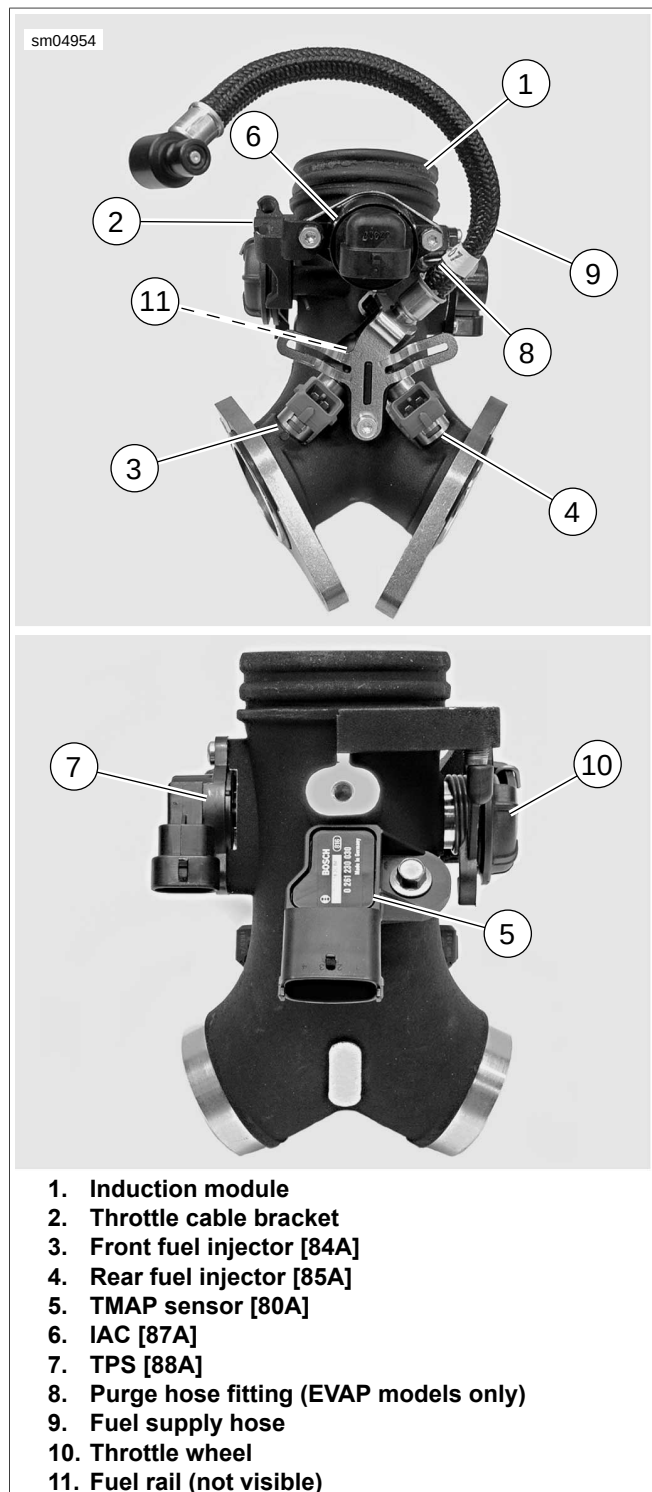
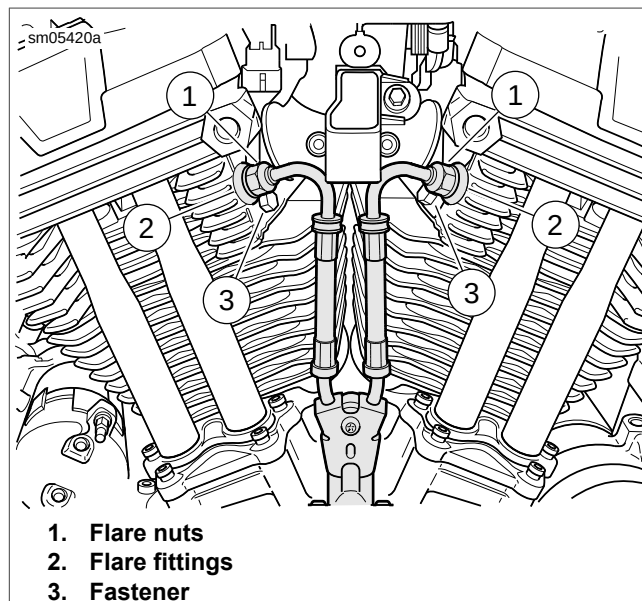

Figure 4-44. Induction Module
Figure 4-45. Remove Induction Module
7. See Figure 4-44. Unplug the following connectors:
- a. Front fuel injector (3) [84],
- b. Rear fuel injector (4) [85],
- c. TMAP sensor (5) [80],
- d. IAC (6) [87],
- e. TPS (7) [88].
8. **EVAP Controlled Models:** Remove purge hose from fitting (8).
9. See Figure 4-45. Disconnect oil line flare nuts (1) from flare fittings (2) in cylinder heads. Remove flare fittings (2) from cylinder heads.
11. Remove two screws (3) securing induction module to cylinder heads on right side of vehicle.
4. See Figure 4-45. Place induction module assembly in position between engine heads. Slide open slotted ends of mounting flanges under heads of two mounting screws on left side of engine.
5. While holding induction module assembly in place, install two mounting screws (3) into remaining mounting flange holes. Tighten all four screws finger-tight.
7. Inspect O-rings on flare fittings (2). Replace as necessary.
9. Connect oil line flare nuts (1) to flare fittings (2). Tighten to 13-17 ft-lbs (17.6-23.0 Nm).
12. **EVAP Controlled Models:** See Figure 4-44. Install purge hose onto fitting (8) on induction module (1).
13. See Figure 4-44. Plug in the following connectors: